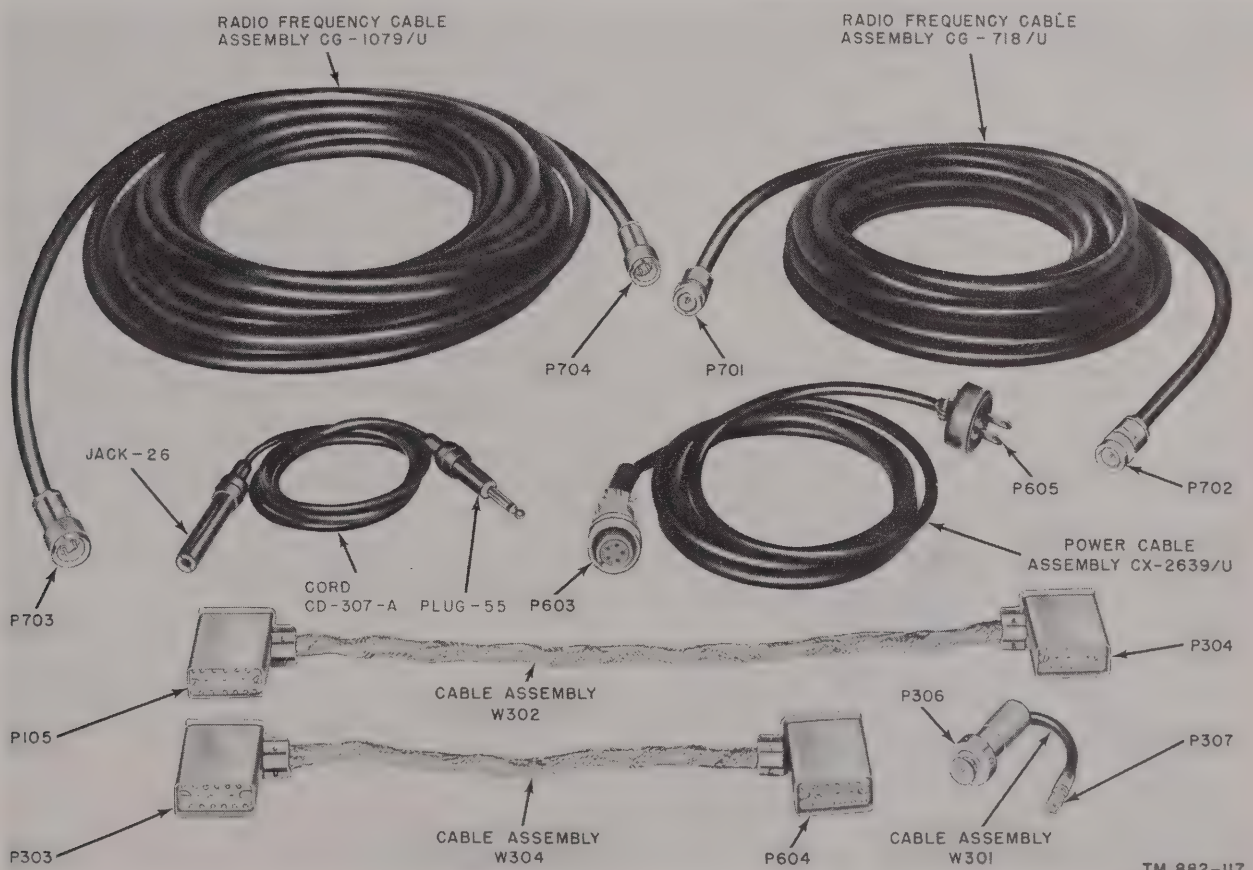

Figure 6. Radio Receiving Set AN/URR-29 cables.
11. Description of Cables (fig. 6)
headset, and the antenna system, and for interconnecting the units. These cables are illustrated in figure 6. Refer to figures 25, 123, and 124 for the cabling of the radio set.